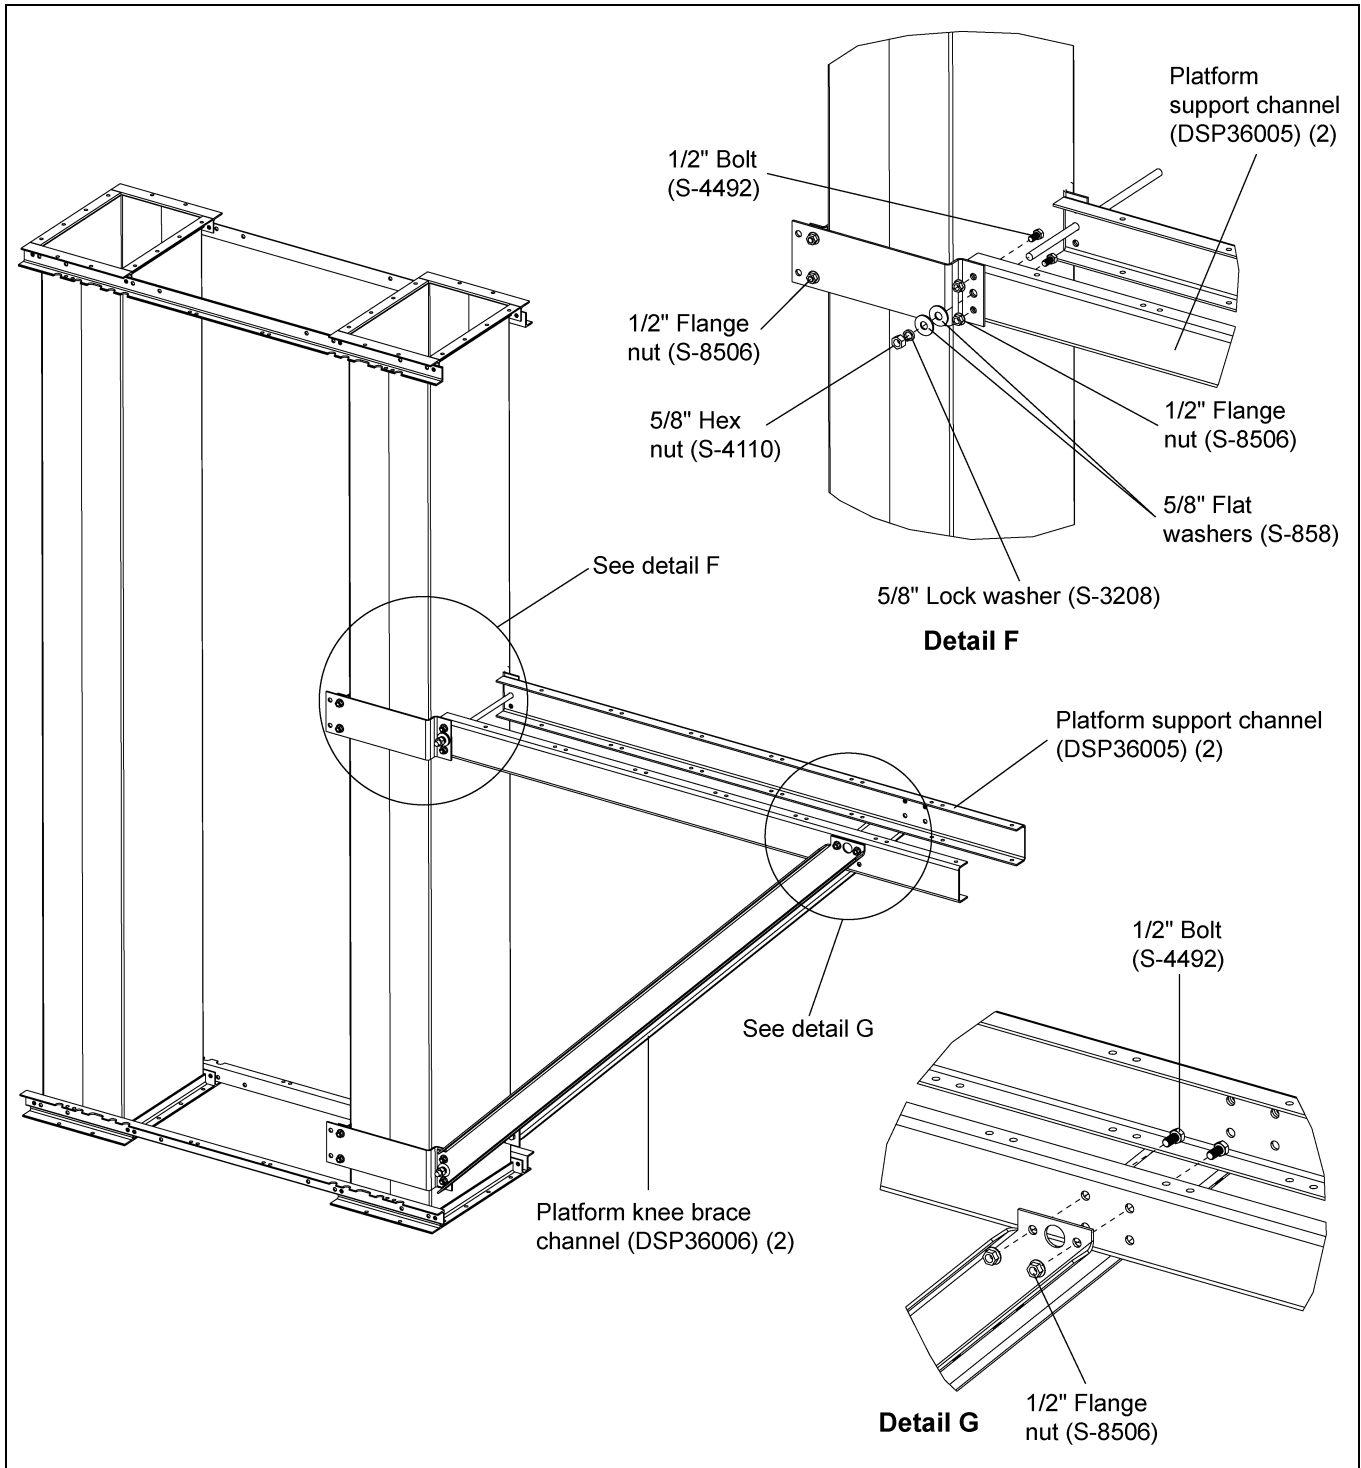

Figure 13B
Insert rod (DSP36008) through middle hole in the bracket, attached to the platform support channel using 5/8" hex nut (S-4110), 5/8" lock washer (S-3208) and two (2) 5/18" flat washers (S-858). The knee braces will attach in the upper set of holes on side of support channels using 1/2" hardware. (See Figure 13B.)